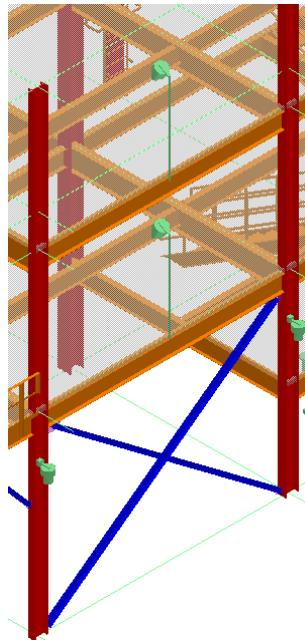

Figure 37: Stanchion Mounting Electrical Light After Pasting
8. Click in the graphic view to place the copied Stanchion Mounting Electrical Light, as shown in Figure 37.